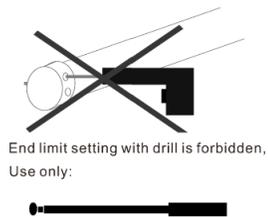
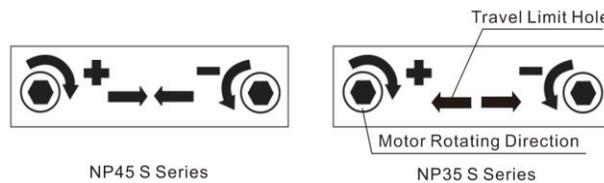

Fig.4
Fig 5
2. According to the motor's rotating direction and the adjusting instruction, Insert travel limit pole into its travel limit hole to adjust limit travel(end limit setting with drill is forbidden(Fig.4)); the direction of "+" will increase the shutter's travel; the direction of "-" will reduce the shutter's travel. (Fig.5)